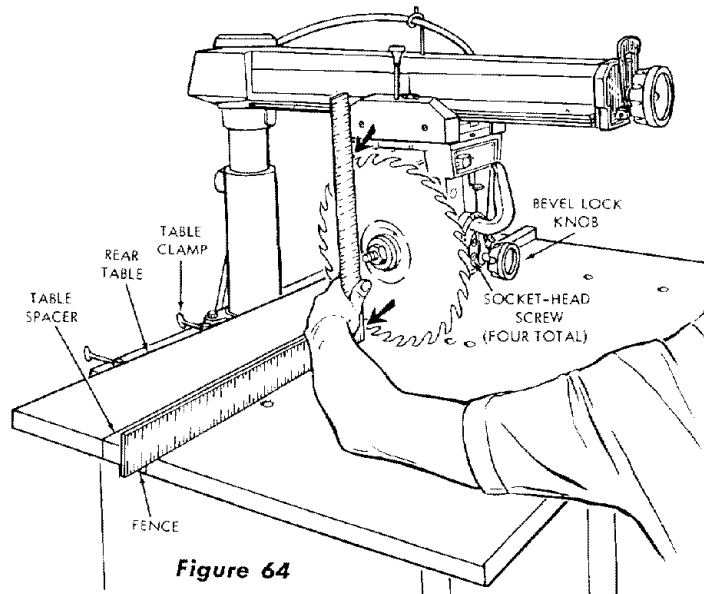

Figure 64
- (1) Place a framing square on the table with the short leg against the saw blade as shown in figure 64. Do not allow the square to rest against a "set-out" tooth of the saw blade.
(2) If the saw blade is square with the table top, the square will contact the hollow-ground blade at the points shown by arrows in figure 64. If the square does not touch the saw blade as shown (with square leg held firm against the table top), perform the following adjustments:
- (c) Tilt the motor until saw blade is square with the table top as shown in figure 64. Then, while holding the square firmly against the saw blade and table top, apply moderate force against lower part of saw blade with the thumb until approximately 1/32-inch clearance exists between the square and lower edge of saw blade. This is to compensate for the possible slight shifting of the motor while the socket-head screws are being tightened.